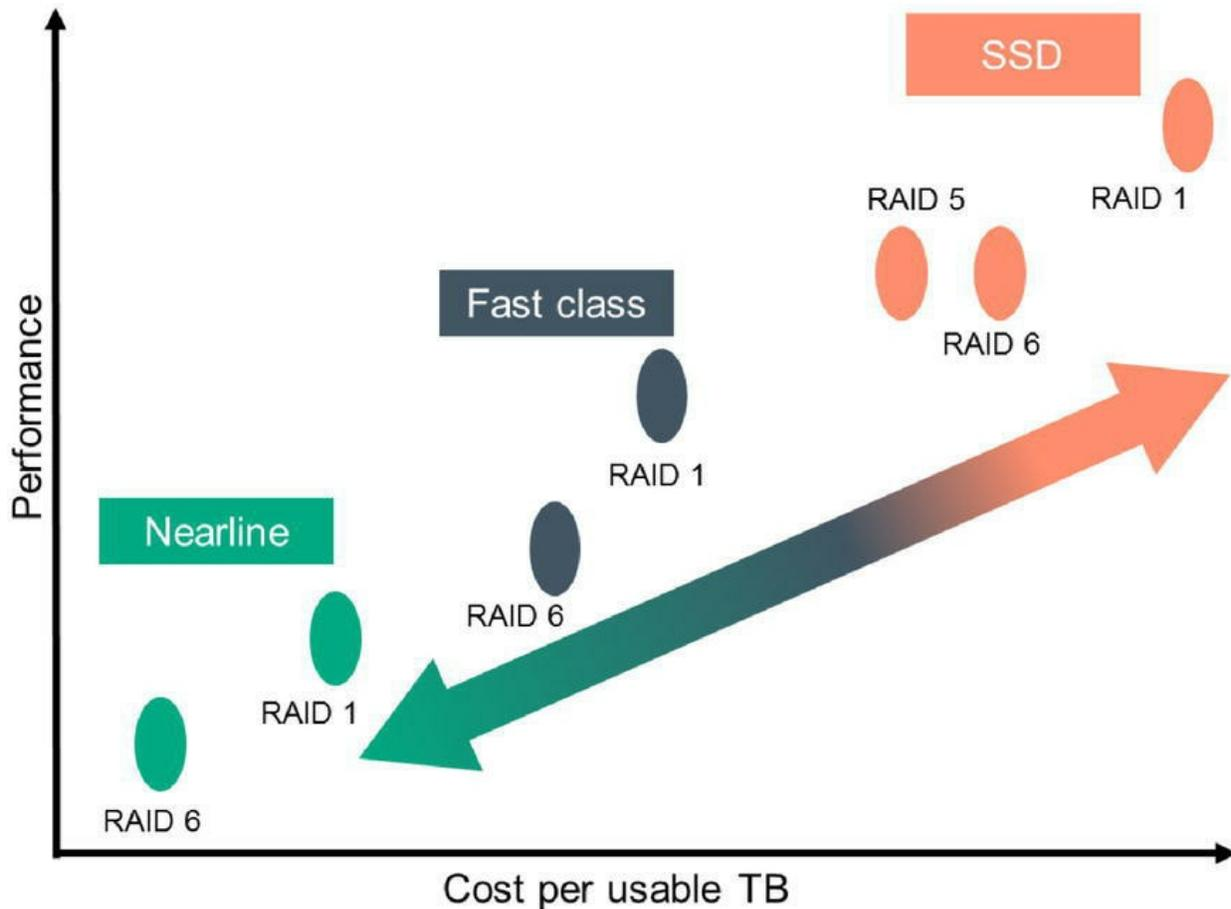

Figure 5-65 Change from disk type, RAID on the fly
HPE 3PAR Dynamic Optimization (DO), as illustrated in Figure 5-65, is an HPE 3PAR OS feature that enables the administrator to dynamically tune volumes by changing volume parameters, such as RAID level, set size, and disk drive types. To perform these tasks, an HPE Dynamic Optimization license is required.